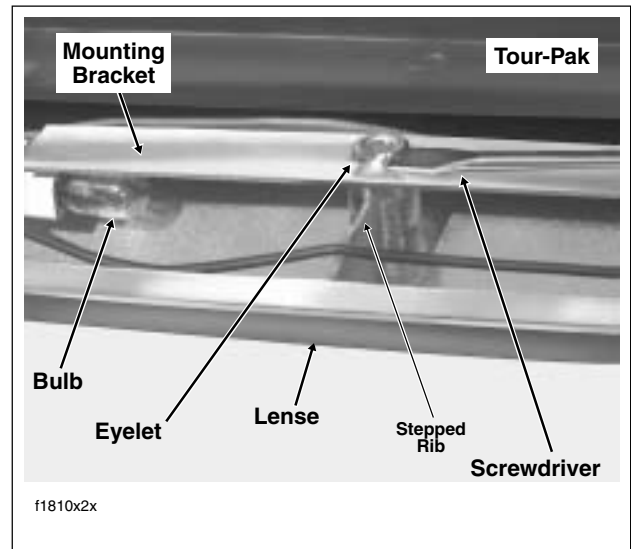

Figure 2-144. Remove Eyelets to Release Mounting Bracket From Lense
4. Using the blade of an X-Acto knife or small screwdriver, gently pry up three eyelets on inboard side of mounting bracket. See Figure 2-144. Remove eyelets and then remove mounting bracket from lense. Discard eyelets if damaged.
7. Place lense assembly into position at side of Tour-Pak, but exercise caution to avoid pinching or kinking wires. Note that center rib on inboard side of lense has a stepped area for routing of the top wire. See Figure 2-144.
3. Place lense assembly into position at side of Tour-Pak, but exercise caution to avoid pinching or kinking wires. Note that center rib on inboard side of lense has a stepped area for routing of the top wire. See Figure 2-144.